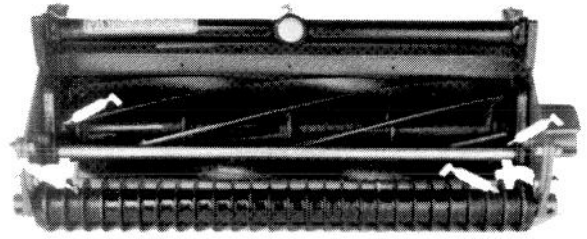

Figure 8
There are six (6) grease fittings on each cutting unit (Fig. 8, 9), which must be lubricated using a No. 2 multi-purpose lithium base grease. A hand-operated grease gun is recommended for best results.